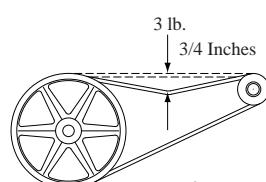

Fig. 7
- Belt tension.** Loosen the motor mount bolts and slide the motor back until the belt is properly tensioned. A 3 lb. force should deflect the belt 3/4 inches (see Fig. 7). Retighten motor mount bolts. **Do not adjust pulley to tighten belt.**